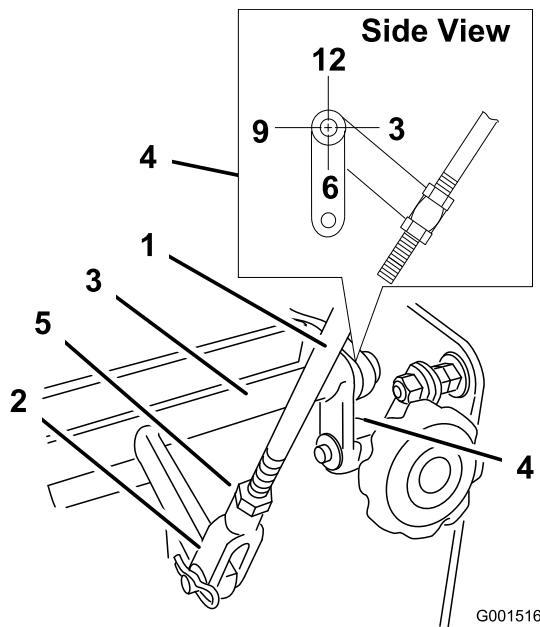

Figure 35
4. Check the orientation of the tabs on the ends of the speed-control crank. These tabs should be pointing straight down at the 6 o'clock position approximately (Figure 35).
5. Adjust the threaded yoke at the bottom of the speed control linkage until the tabs are at the 6 o'clock position (Figure 35).